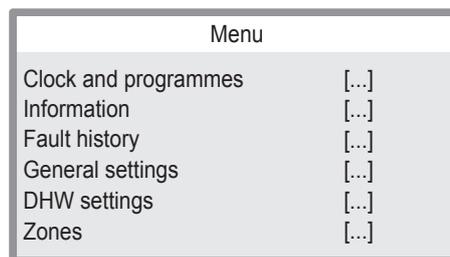

Figure 9.8
- 1 Press key "D" (Figure 9.7) to go to the main menu (Figure 9.8).